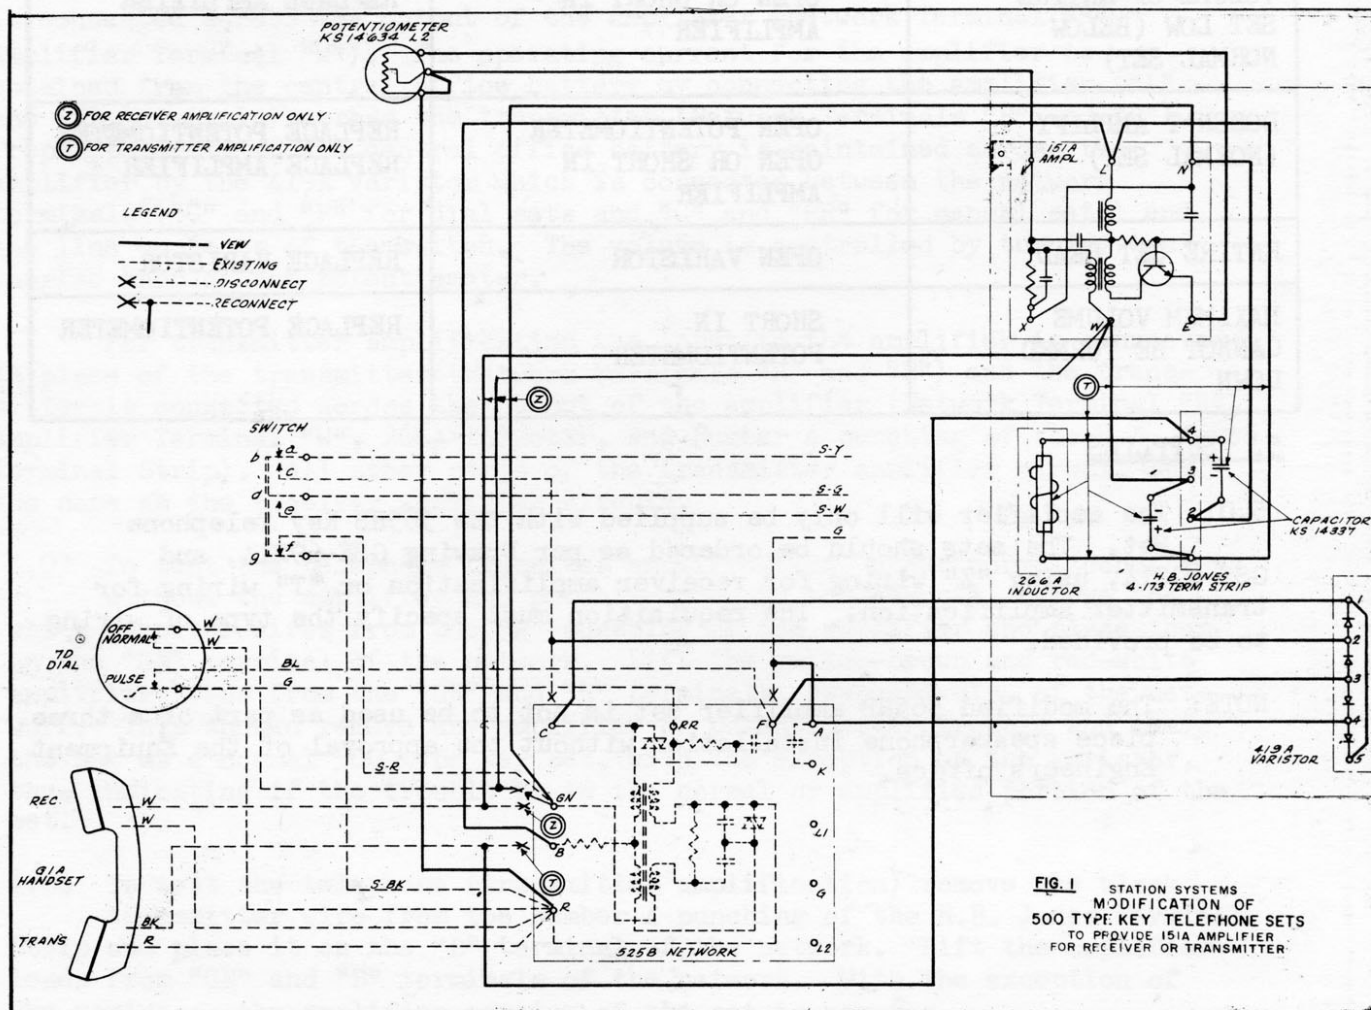

FIG. 1 STATION SYSTEMS
4.02 Following is an explanation of the amplifier circuit, as shown in Fig. 1, of this practice: